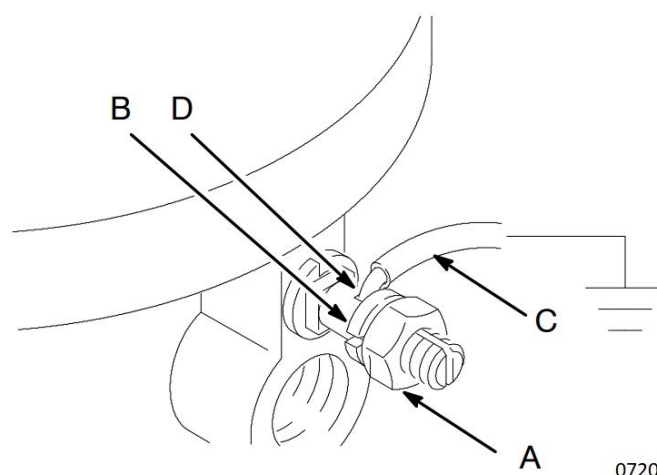

FIG. 1: Ground Wire
Pump: use a ground wire and clamp as shown in FIG. 1. Loosen the grounding lug locknut (A) and washer (B). Insert one end of a 12 ga (1.5 mm²) minimum ground wire (C) into the slot in lug (D) and tighten the locknut securely. Connect the other end of the wire to a true earth ground.